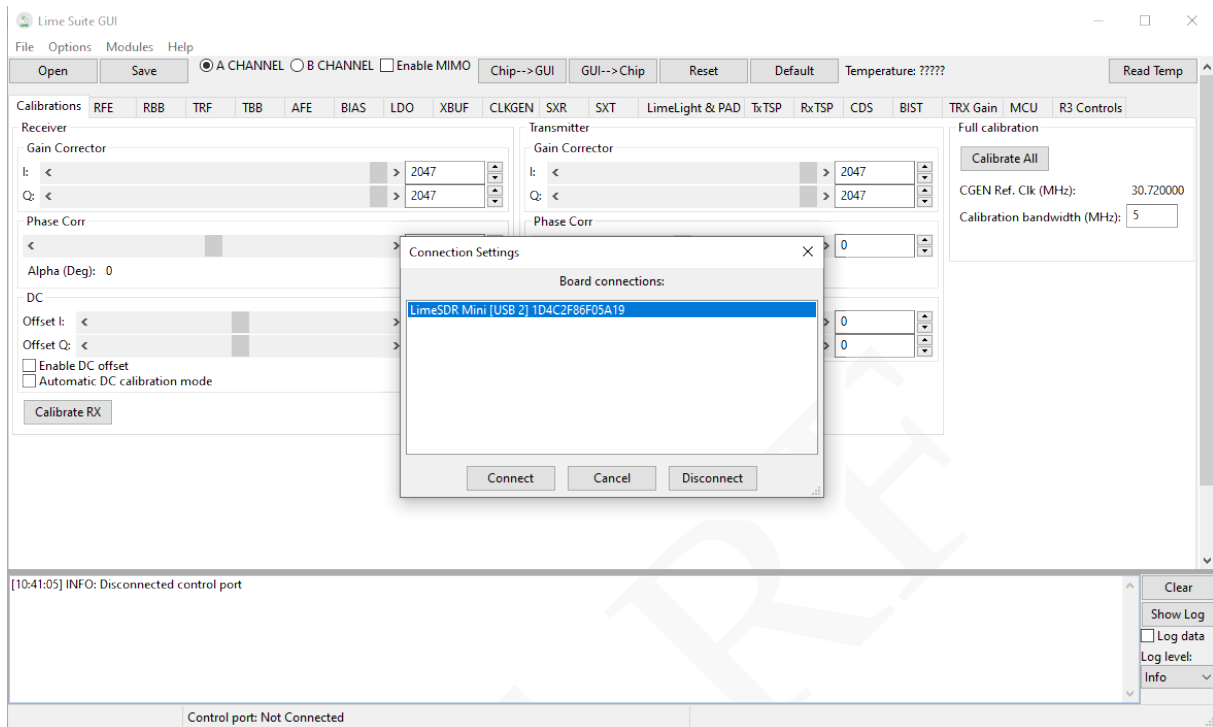

Figure 2: Lime Suite GUI window
- Open Lime Suite GUI and then go to Options → Connection Settings (Figure 2).